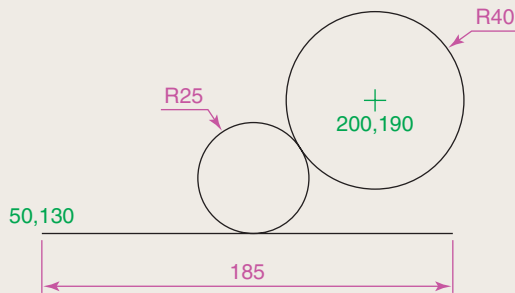

Fig. 2.32 Exercise 5
5. In an **acadiso.dwt** screen and using the **Circle** and **line** tools, construct the line and circle of radius **40** shown in Fig. 2.32. Then, using the **Ttr** prompt, add the circle of radius **25**.